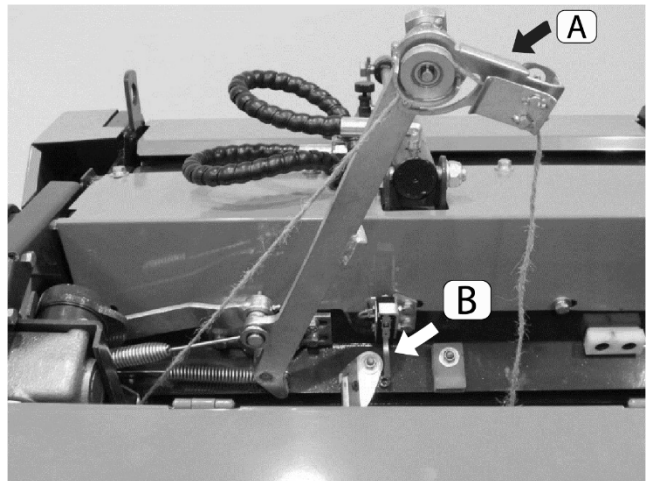

Figure 12 Top front of baler (twine arm and horn switch)
The full chamber horn (11, A) sounds when the bale chamber is full, after the twine arm (Figure 12, A) drops and depresses the activation switch (B). This begins the twine wrapping process.